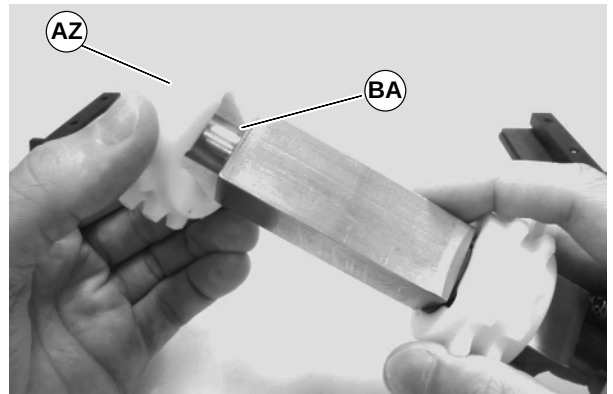

Figure 39
6. Slide free moving sprocket(s) (AZ of Figure 39) off the end of pulley (BA).